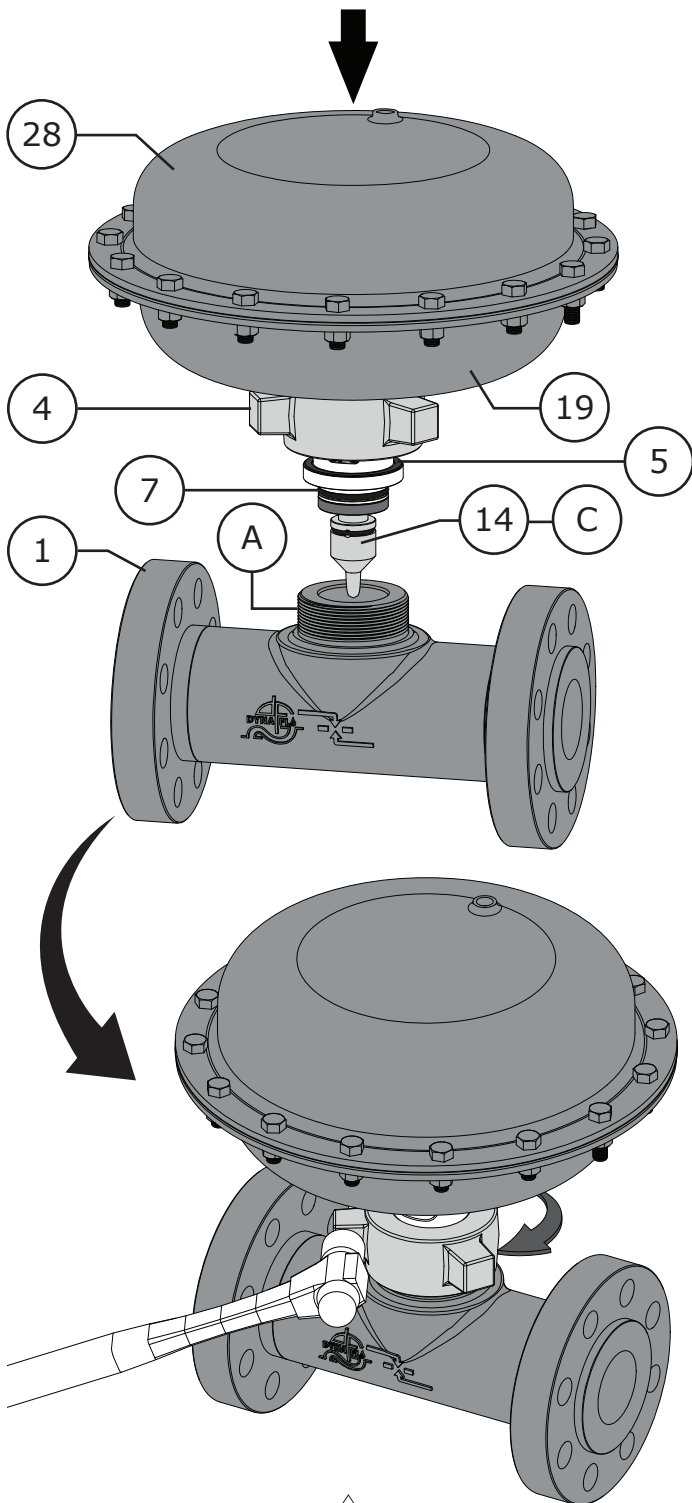

Figure 9 Actuator/Valve Assembly
- B Carefully install the bonnet/actuator assembly into the valve (refer to Figure 9) and orientate the window of the bonnet (Key 6) so that it is perpendicular to the valve body (Key 1).
- A Carefully install the bonnet/actuator assembly into the valve assembly (refer to Figure 9) and orientate the window of the bonnet (Key 6) so that it is perpendicular to the valve body (Key 1).